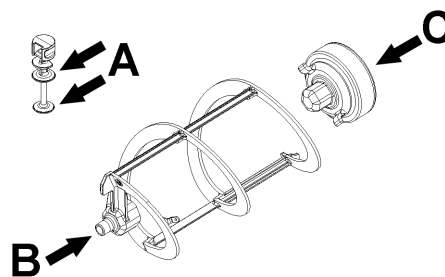
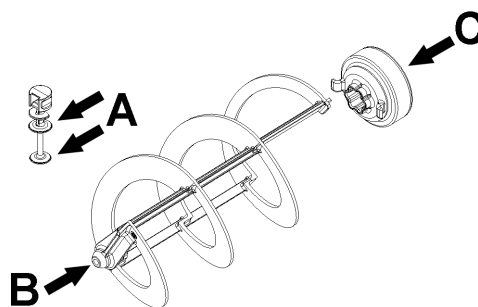

figure 9
figure 10
- 2 Lubricate the tap piston, the hexagonal joint and the mixer at the points indicated in figure 9 (NG6) or figure 10 (NG10), using only the grease that came with the machine or other
- 3 Reassemble the tap on the container in reverse order compared to that shown in figure 9 and figure 10.